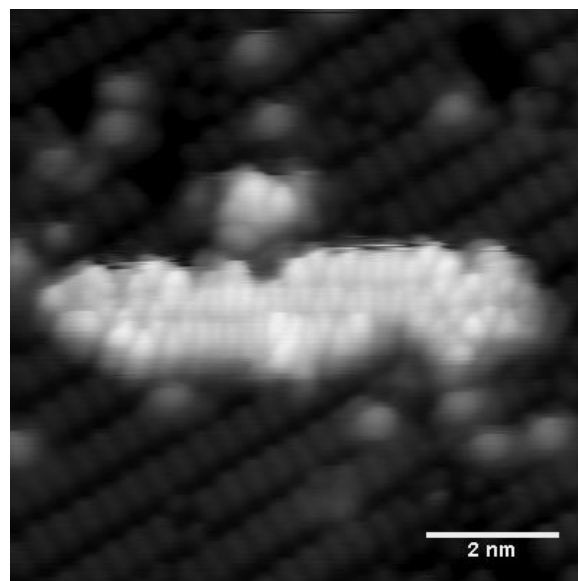

Figure 1: N=9 armchair GNR with coves on H:Si(100). A regular size cove is visible to the left of the large cove along the top of the GNR. 5 pA, -2 V.
We present the electronic characterization of a new solution-synthesized graphene nanoribbon (GNR). The GNR was synthesized with two different precursors to form coves along the length of an N=9 armchair GNR. The GNR also contains two different functional end groups, NO₂ and NH₂, with each synthesized to attach to the two different precursors. Atomically precise graphene nanoribbons with functional end groups have the potential for further modification and integration into complex electronic structures. We use the dry-contact transfer (DCT) method to exfoliate the GNRs onto hydrogen passivated Si(100) in a room temperature ultra-high vacuum (UHV) scanning tunneling microscope (STM). The bandgap and density of states are probed using scanning tunneling spectroscopy (STS) and current imaging tunneling spectroscopy (CITS). We find that GNRs tend to cluster in groups and potentially form weak bonds at the functionalized ends. We also find evidence of missing phenyl groups during synthesis which form 120° turns and extra-large coves in the final structure of the GNR as shown in figure 1. Simulation data indicates that the DFT bandgap is 1.4 eV and an increased density of states over the NO₂ end group. Experimentally we see that one end of the GNR appears to be metallic using STS, which we attribute to the NO₂ end group. The bandgap appears to have a lateral dependence along the GNR which will be explored in more detail. Finally, we present the effects of nanolithography across the GNR.